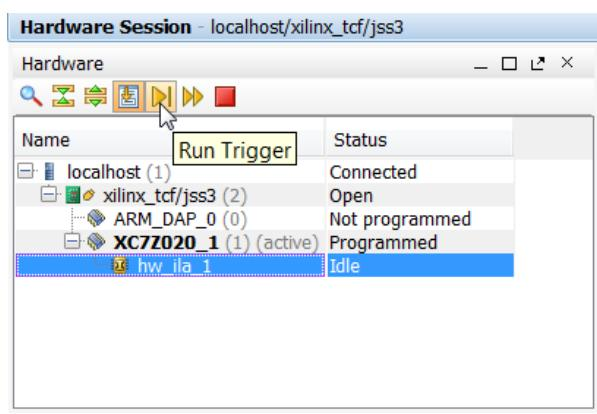

Figure 73: Run Trigger
12. In the Hardware window, select the `hw_ilal_1` core, then click the **Run Trigger** button (Figure 73).